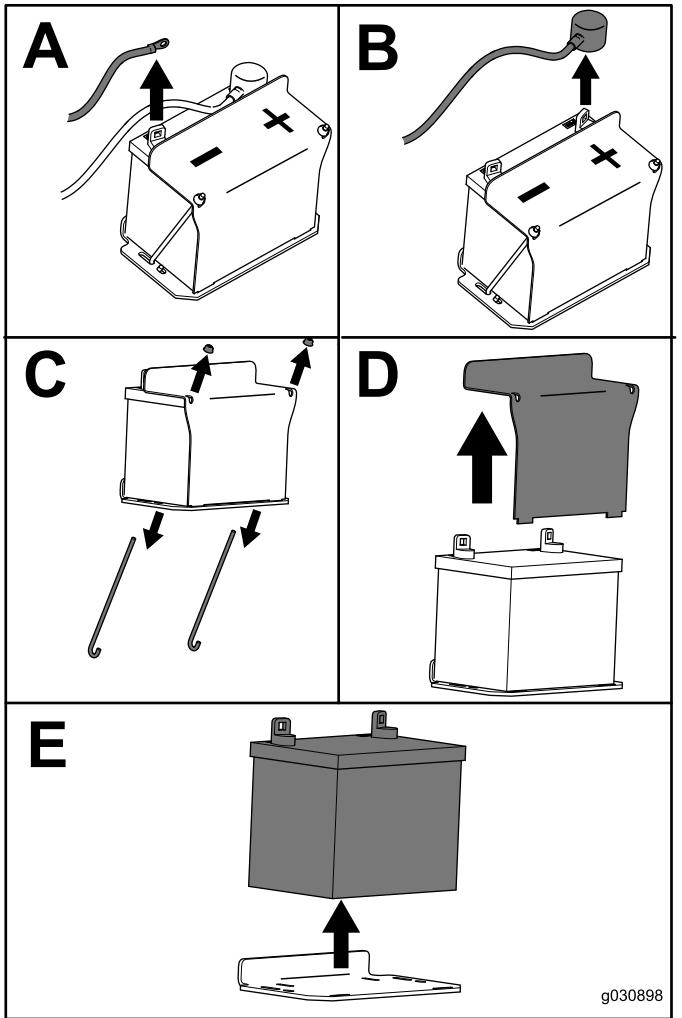

Figure 53
- Remove the battery as shown in Figure 53.